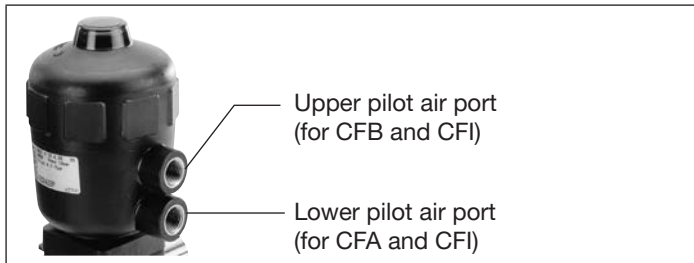

Fig. 28: Pneumatic Connection
- Pressurize lower pilot air port with compressed air (value as indicated on the type label) (see “Fig. 28”).
- Pressurize upper pilot air port with compressed air (value as indicated on the type label) (see “Fig. 28”).
- Connect control medium to upper and lower connections (see “Fig. 28: Pneumatic Connection”).